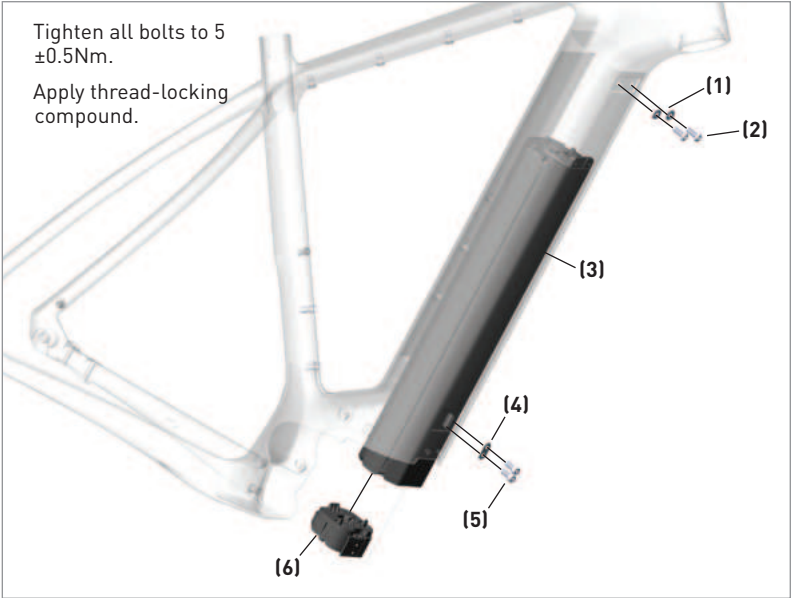

Figure 7
- 4. When reinstalling the battery assembly, use the torque values listed in Figure 7.